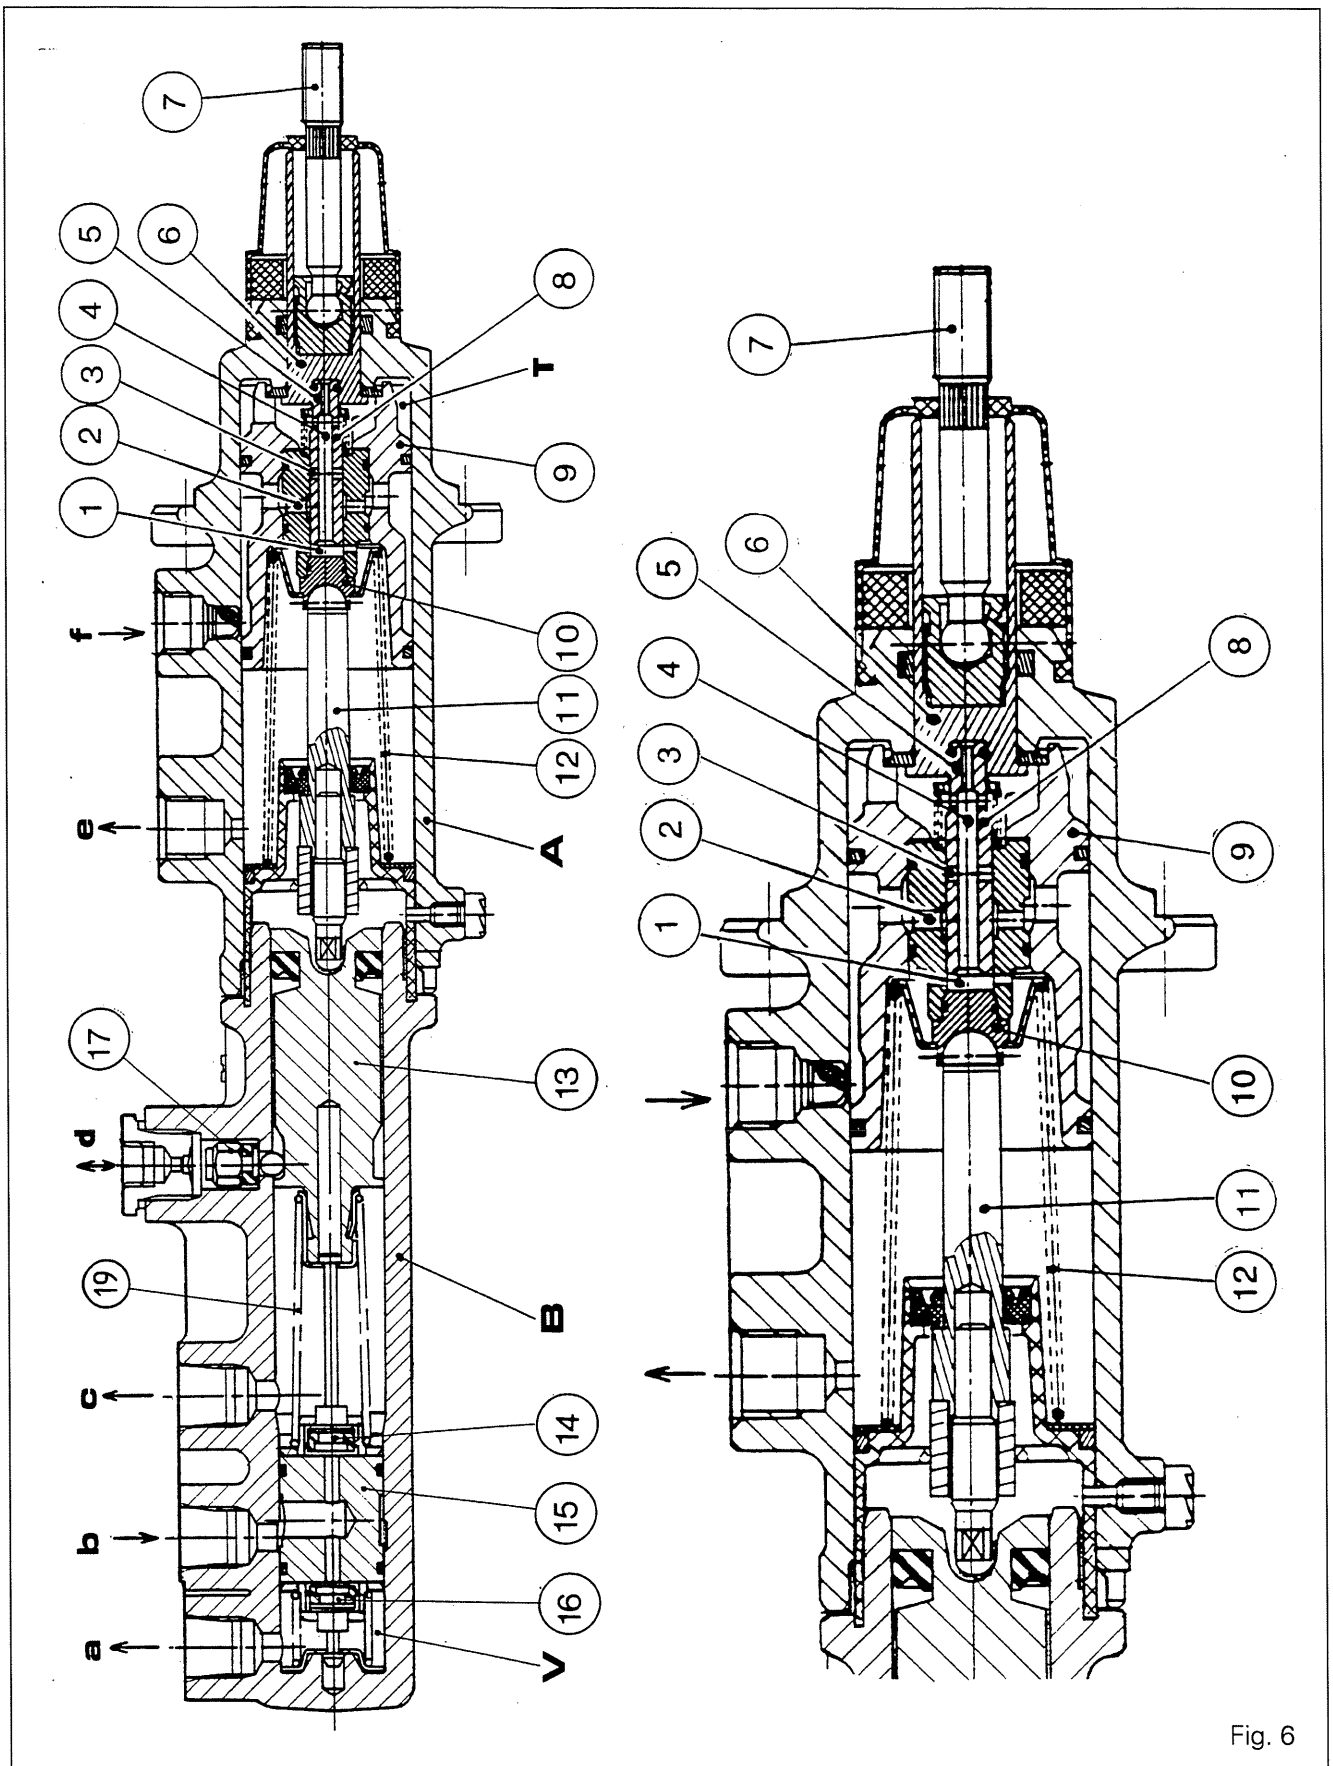

Fig. 6
### C. Master cylinder and servo-brake assembly (Fig. 6)
##### Pedals unlatched (Fig. 6)
1. Measure the position of the piston (13) in the master cylinder with respect to the flange, on side **A**. Do not compress the spring (19) (Fig. 6).
4. Measure the position of the end of the push rod (11) from the servo-brake flange on side **B**. Do not compress the spring (12) of piston (9).
5. Correct the length of the push rod in order to obtain a play of:  $J = 0.5 \pm 0.25$  mm between the push rod (11) and piston (13).